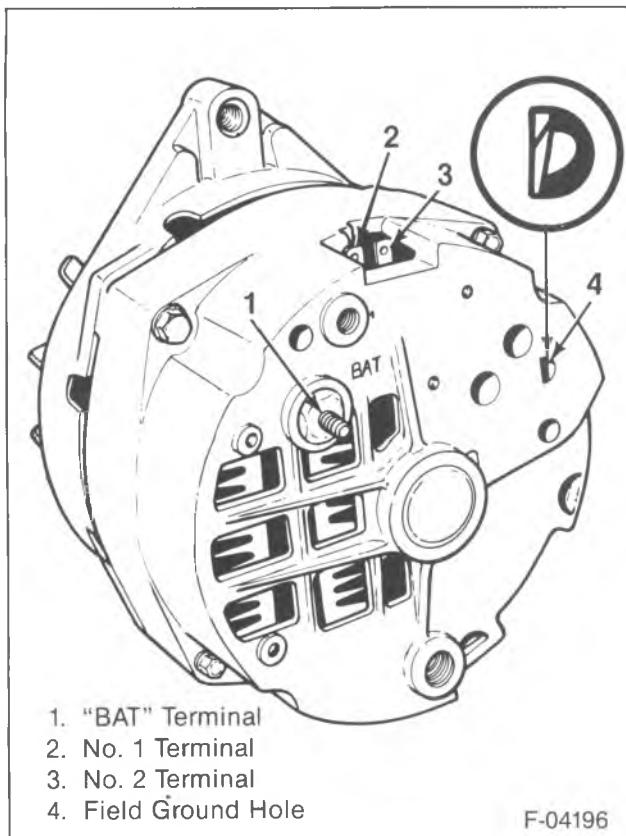

Figure 5—Field Ground Tab
7. If the output is not within 10 amperes of the rated output, keep the battery loaded with the carbon pile, and ground the generator field (figure 5).